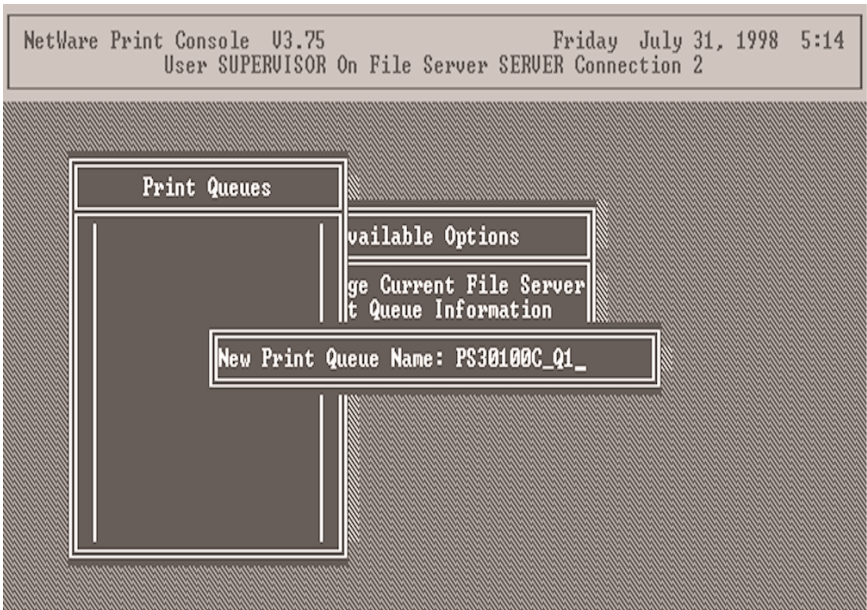

Figure 6-2. Typing in a new print queue name.
5. Type in a print queue name, such as PQ or Q1. See Figure 6-2.